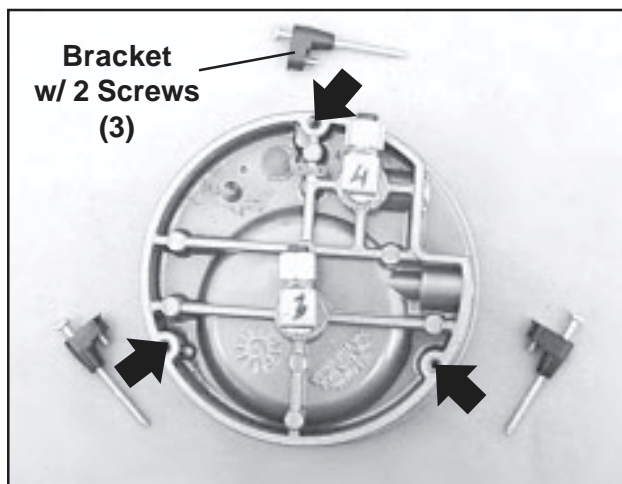

Figure 77. Blower Gauge & Mounting Hardware
3. Mount the small screws in the three brackets onto the rear of the gauge at the points indicated by the arrows in Figure 77.